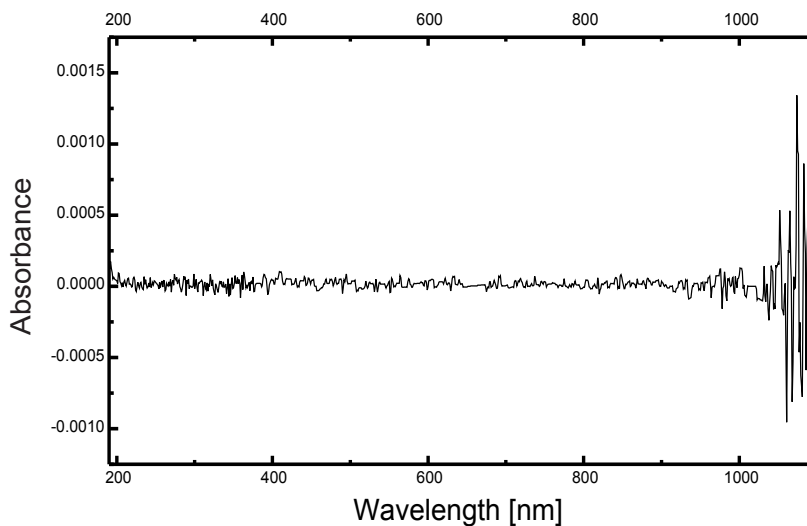
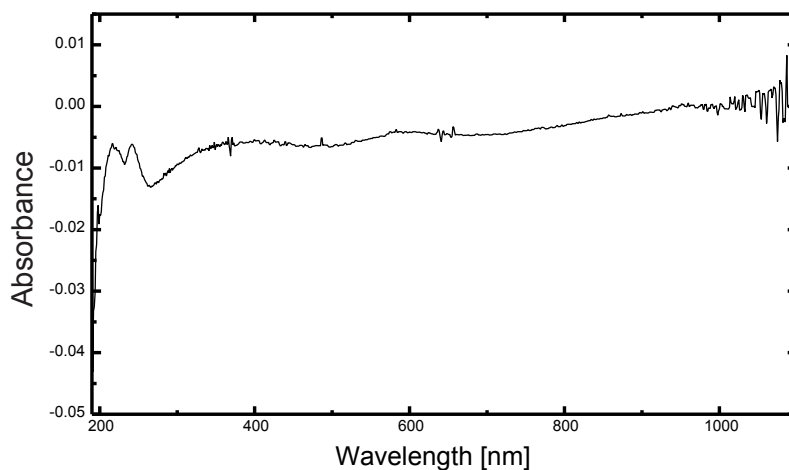

Figure 11 Example of a Blank on Water Showing a Good Baseline
Figure 12 Example of a Blank on Water with Bubbles Causing a Poor Baseline
- ✓ Blank measurement shows a flat baseline (Figure 11 and Figure 12 show a good and a poor baseline)
If your blank or spectra shows artifacts similar to the one in Figure 12, see “Solvents” on page 45 to optimize the measurement procedure.